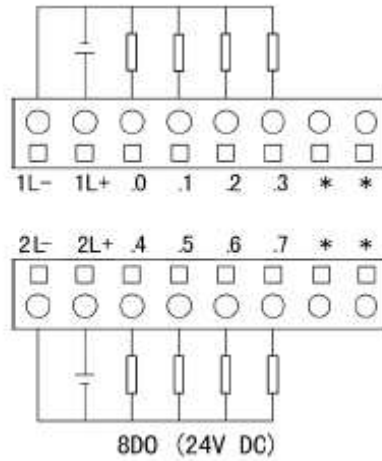

Figure 3-1-6 LM3220 Terminal Definition and Wiring Diagram
- 1L+ and 1L- of DO channel in Figure 3-1-6 connect the positive and negative end of 24VDC drive power supply under external load; 2L+ and 2L- connect the positive and negative end of another channel (or the same channel) 24VDC.